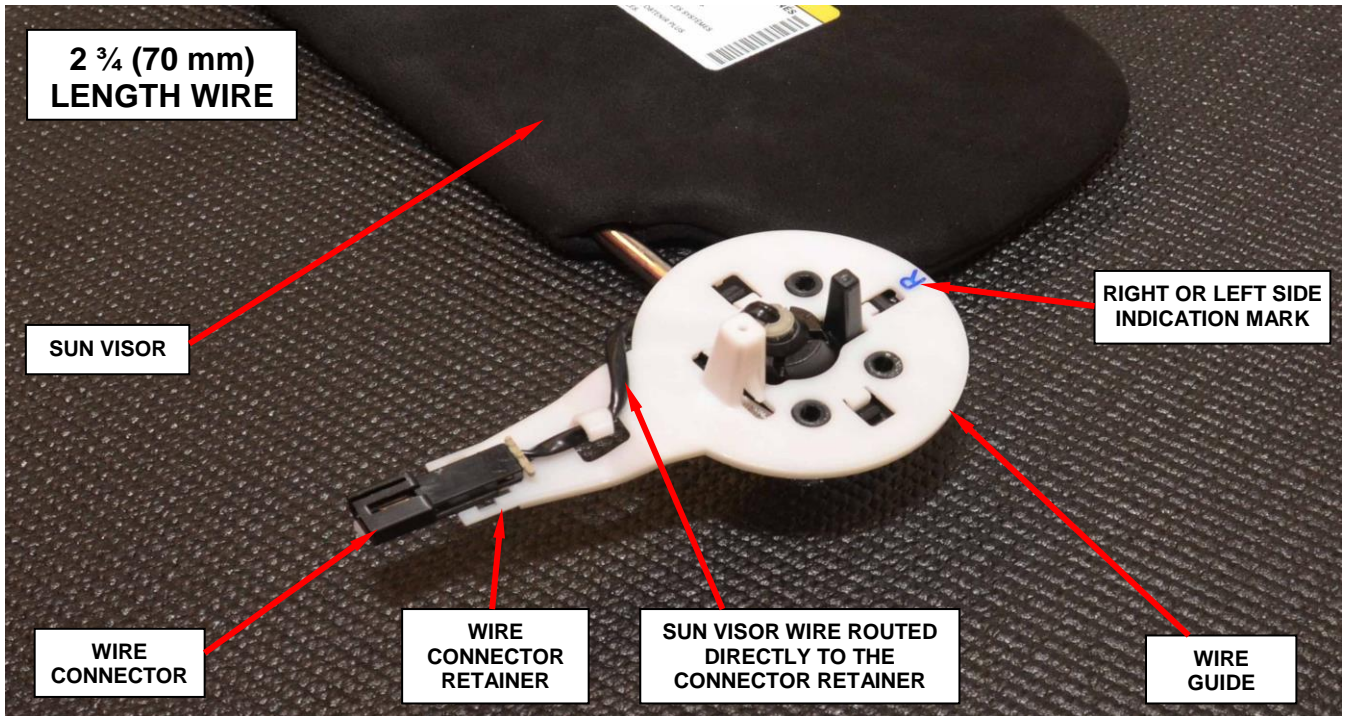

Figure 28 - Sun Visor Wire Routing (2 3/4 Inch / 70 mm Length Wire)
56. Route the wire as shown in Figure 28 or 29 depending on the length of the sun visor wire. Then connect the sun visor wire harness electrical connector to the wire guide connector retainer.
NOTE: Figures 28 and 29 show the sun visor parts assembled without the headliner in place.